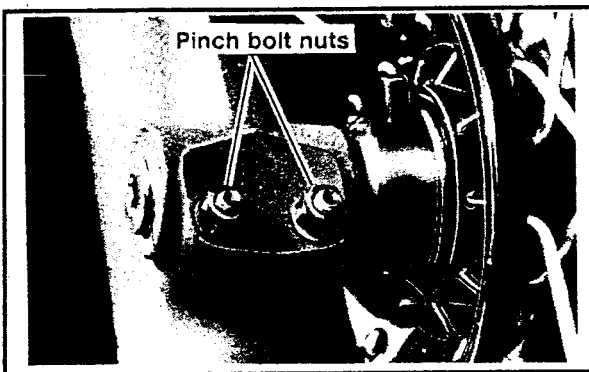

Figure 5-47. Pinch Bolt Nuts
2. See Figure 5-47. Loosen pinch bolt nuts on right slider. Do not remove nuts.
4. See Figure 5-47. Position axle spacer between left side of wheel hub and left slider, then drive axle through spacer and slider, tapping axle with a soft-faced mallet.
7. See Figure 5-47. Tighten right slider pinch bolt nuts to 6.9 N·m (60 in-lb).